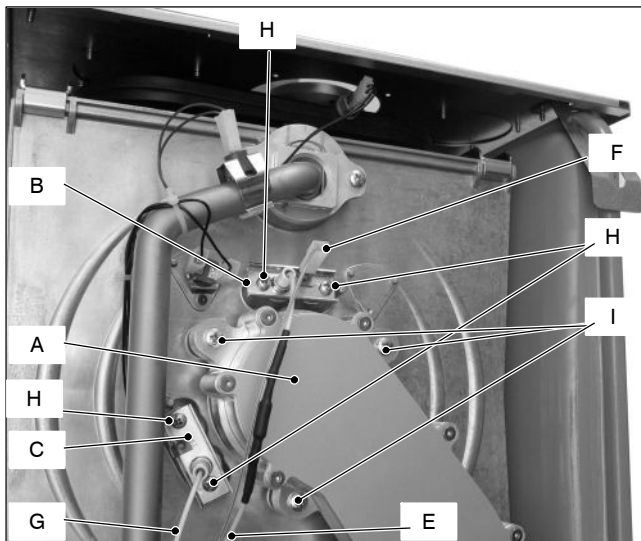

Fig. 18.1
- 2 Disconnect the ignition electrodes connector E and the earth wire F (Fig. 18.1) and disconnect the detection electrode connector G.
- 3 Unscrew the screws H and remove the ignition electrodes B and the detection electrode C (Fig. 18.1).
- 2 Unscrew the screws I (Fig. 18.1 ) and remove the fan–burner duct A.